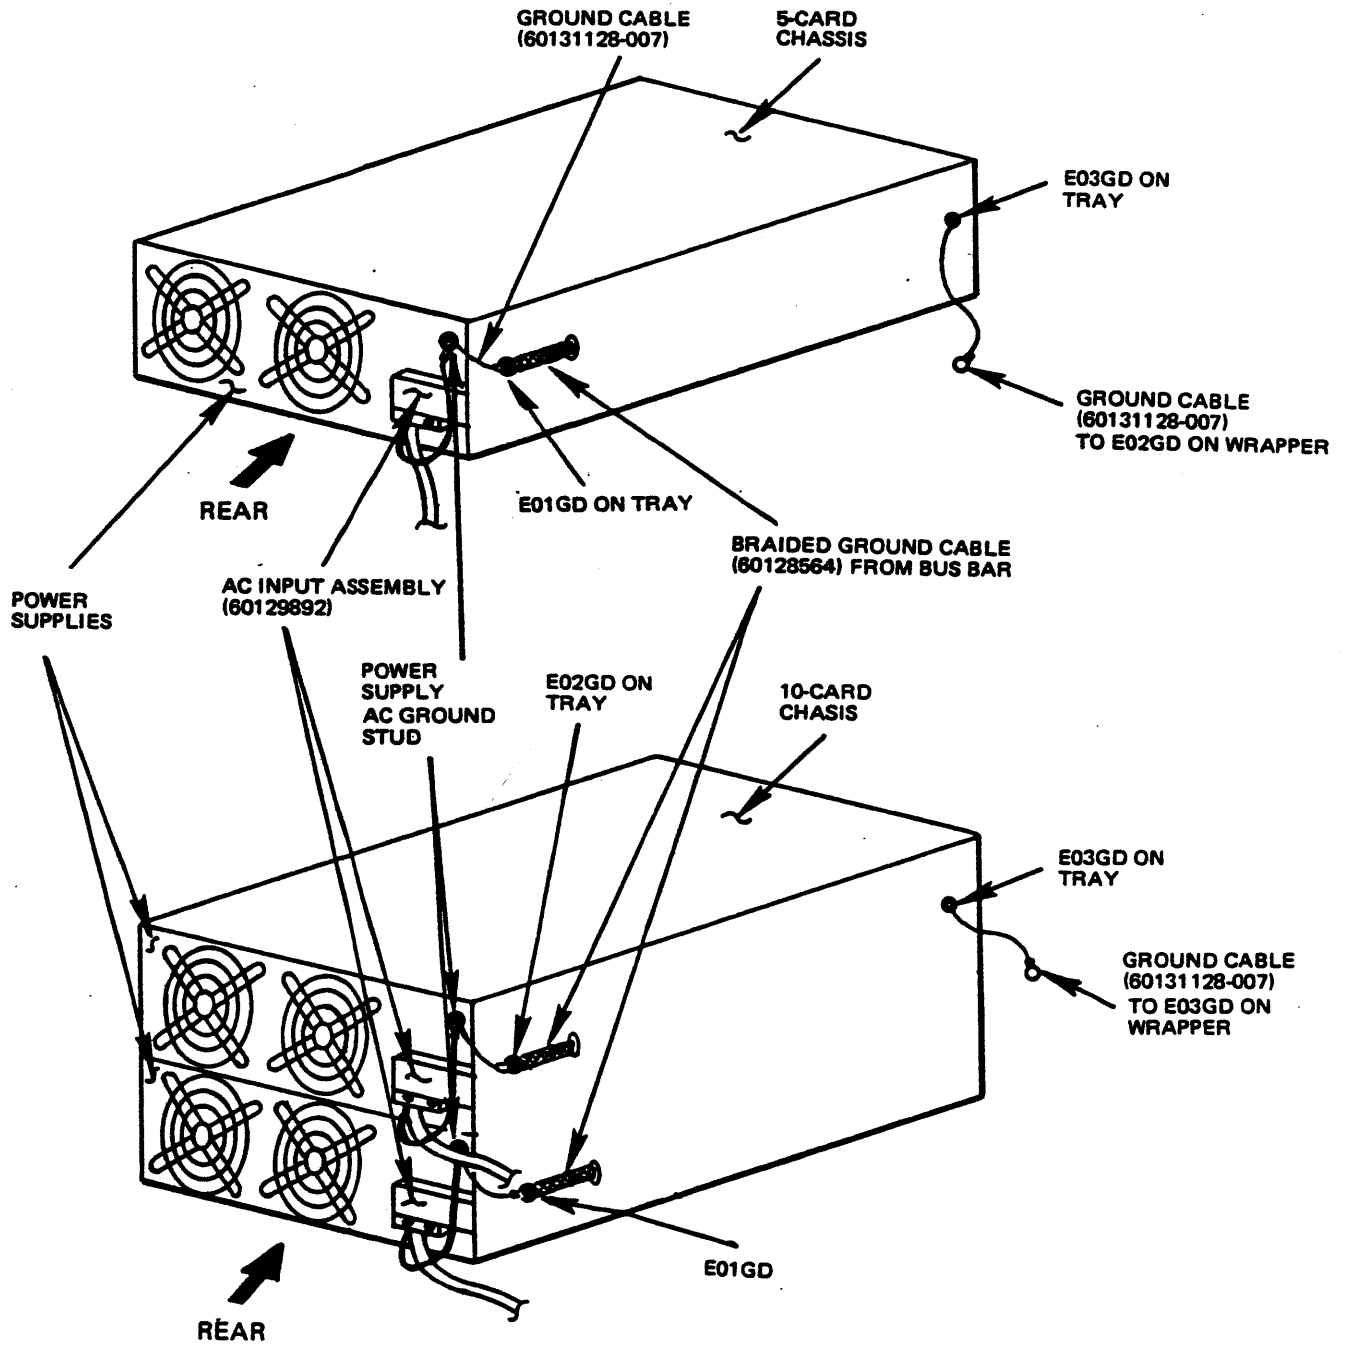

Figure 3-6.1 Card Chassis and Power Supply Grounds
1. Ensure that the following ground connections have been made for each 5-card chassis within the system (see Figure 3-6.1):
2. Ensure that the following ground connections have been made for each 10-card chassis within the system (see Figure 3-6.1):